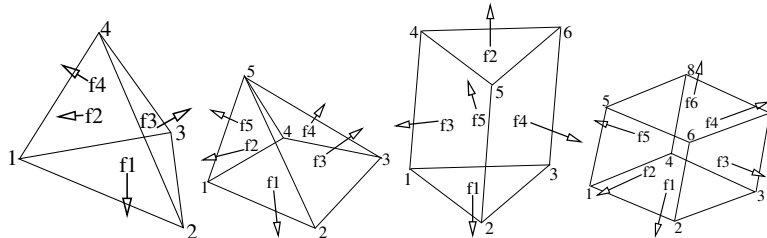

Figure 3.1: Element types.
- **elements** - list of elements:  $[e1, n1, n2, \dots, ne1, me1, e2, n1, n2, \dots, ne2, me2, \dots]$ , where  $e1$  is the number of nodes of the first element,  $n1, n2, \dots, ne1$  enumerate the element nodes, and  $me1$  is the material number. Similarly for the second and all remaining elements. Supported numbers of nodes per element are 4, 5, 6, and 8 for respectively *tetrahedron*, *pyramid*, *wedge*, and *hexahedron*, cf. Figure 3.1.